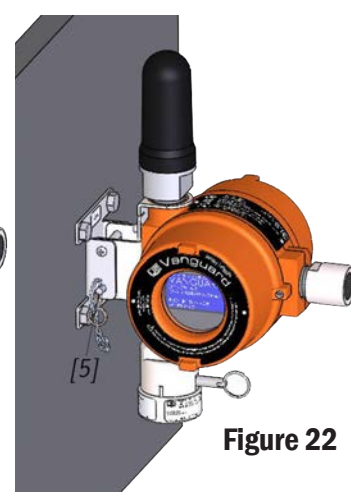

Figure 22
4. Push attached pin [5] through bottom holes to secure device to the bracket (see Figure 22).